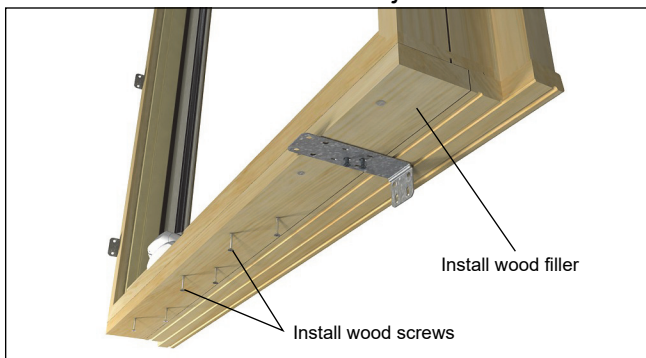

Figure 1 Wrap style bracket shown.
1. Prep wood units with subsills by installing and securing a wood filler with #8 x 2" wood screws. Place the brackets with the short leg toward the nailing fin or casing as shown, barbed side down. See figure 1.